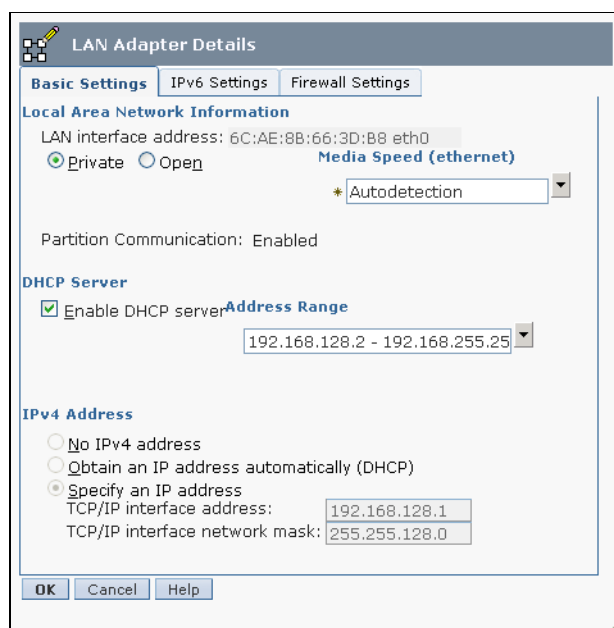

Figure 2-9 Customize Network Setting for LAN Adapters: Partition communication
4. In the LAN Adapter Details window (Figure 2-9) on the LAN Adapter tab, select **Open** within the local area network information area to enable the check box for Partition Communication. Then, select **Partition communication**.